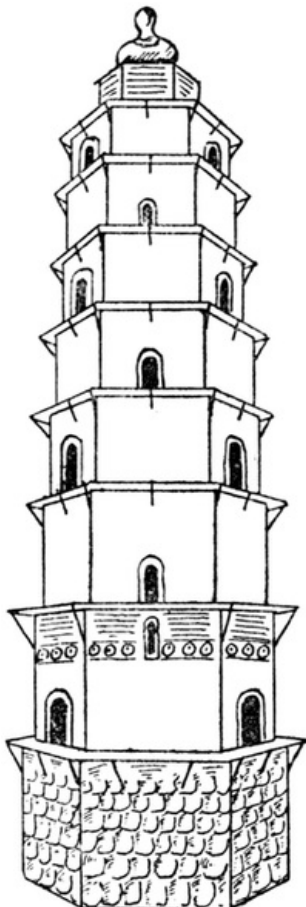

FIG. 545
**A Pagoda**, or memorial tower, in the province of Quei Chow in China (Fig. 545). This is made of nine hexagonal prisms. The bottom one is 2 inches high, the sides being also two inches; the dimensions of the next are  $\frac{1}{8}$  inch less, the next another  $\frac{1}{8}$  inch less, and so on. The last prism has side  $\frac{3}{4}$  inch, height  $\frac{3}{4}$  inch. An ornament for the top can be filed from a cork or piece of round wood. The platforms project about  $\frac{1}{4}$  inch beyond the prisms; the supports may be cardboard or pieces of thin wood. The prisms are fastened together as described in the case of the lighthouse (Chapter XIII). The whole should be painted to represent stones, and doors marked on as in Fig. 545.